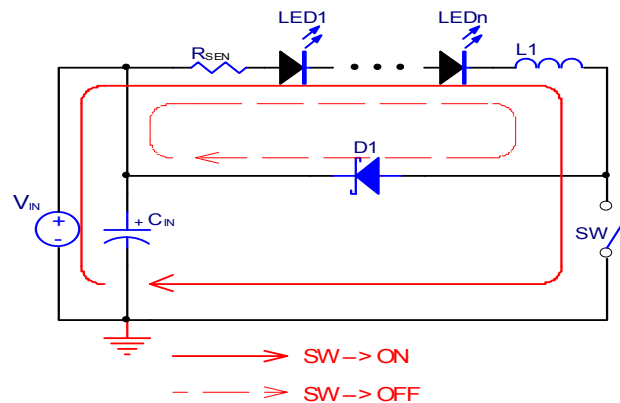

Figure 64. Power loop of MBI6652
10. When SW is ON/OFF, the direction of power loop should keep the same way to enhance the efficiency. The sketch is shown as Figure 64.